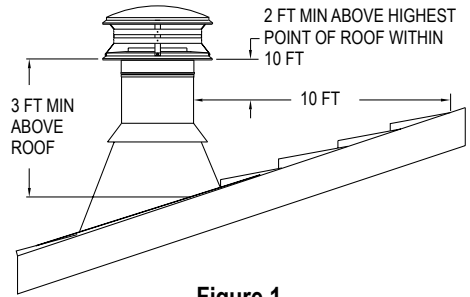
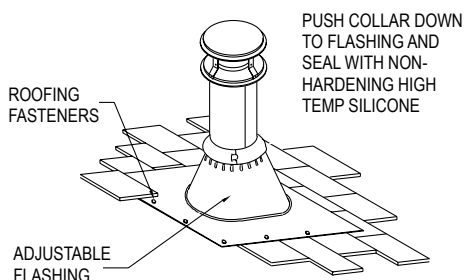
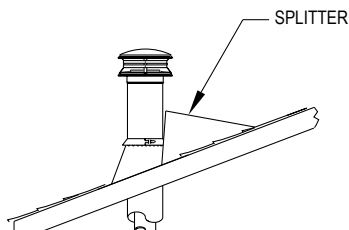
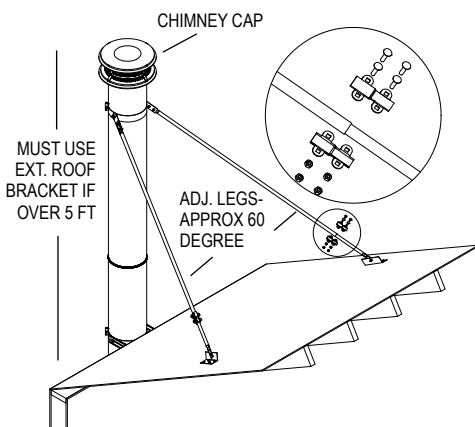

Figure 1
Figure 15
Figure 16
Figure 18
The National Fire Protection Association Standard #211 states: "Chimneys shall extend at least three feet above the highest point where it passes through the roof of a building, and at least two feet higher than any portion of a building within ten feet." (**Fig.1**) DuraTech Chimney may be installed up to 60 feet high. If the chimney extends more than 5 feet above the roof, an Extended Roof Bracket must be used (see page 12). Due to the overlap of the joints, subtract 1-1/4 inches from each Chimney Section's height to calculate installed height.
9. Attach Flashing: In new construction, assemble the Chimney Sections to a point above the roof, then slip the Flashing over the chimney. On an existing roof, center and install the Flashing before extending the chimney above the roof. Allow space to permit sliding the next Chimney Section up through the Flashing. Always insure the chimney remains vertical (use a level), and that at least a 2" clearance to combustible materials is maintained all around. Install the upper edge of the Flashing under the roofing. Nail to the roof along the upper edge and down each side with 1" roofing nails. Do not nail the lower edge of the Flashing (**Fig.15**). Seal top and upper sides of flashing with roofing compound or sealant. Be sure to follow local building practices, as needed. Seal all nail heads with a non-hardening waterproof sealant. On flat or tarred and graveled roofs, nail and seal the
10. Finish Top: Apply a high-temperature (500°F), non-hardening waterproof sealant around the chimney at the point where the Storm Collar will meet the chimney just above the Flashing (**Fig.15**). Slide the Storm Collar down over the chimney to the top of the Flashing. Tighten and seal the Storm Collar against the sealant. After installing sufficient Chimney Sections to meet the height requirement (**Fig.1**), attach the Chimney Cap onto the top of the chimney by holding the collar of the cap and twist locking it clockwise onto the chimney. Do not hold upper portion of the cap and twist, as this may damage the cap. The Chimney Cap can be removed for chimney cleaning as described in the Chimney Maintenance section of the instructions. Use an Extended Roof Bracket if the chimney extends more than 5' above the roof (**Fig.18 in the Extended Roof Bracket section**). If you are located in heavy snow country, it is recommended that a Snow Splitter be installed (**Fig.16**). This will help protect the chimney by routing snow around it.
2. **Attach the Legs:** The Adjustable Legs of the assembly will adjust from 67" to 114". Secure one end of each Leg to the Pipe Band using the nuts and bolts included (2 per Leg). Position the Adjustable legs so they form approximately a 60° angle with the chimney, and with each other (**Fig.18**). Be sure that there is at least 3" of overlap between the top and bottom halves of the Adjustable Leg. In order to secure Legs in proper position, there is a hole provided in the outer leg where the outer and inner halves overlap. Use a 1/4" drill bit to drill through the inner leg at that location. Use the nut & bolt provided to pin the Adjustable Legs in position.
3. **Install Roof Brackets:** Mount the two Roof Brackets where each of the Adjustable Legs meets the roof, using (4) 1" roofing nails or screws per bracket. Seal the nail heads carefully with a non-hardening, waterproof sealant. Attach the bottom end of the Adjustable Legs to the Roof Brackets using the nuts & bolts provided.